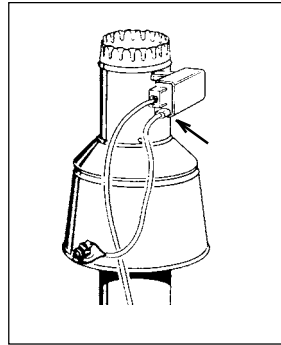

Figure 7. Drafhood Switch Receptacle.
- h. Plug the wiring for the drafhood switch into the receptacle on the left side of the vent damper box (see Figure 7).